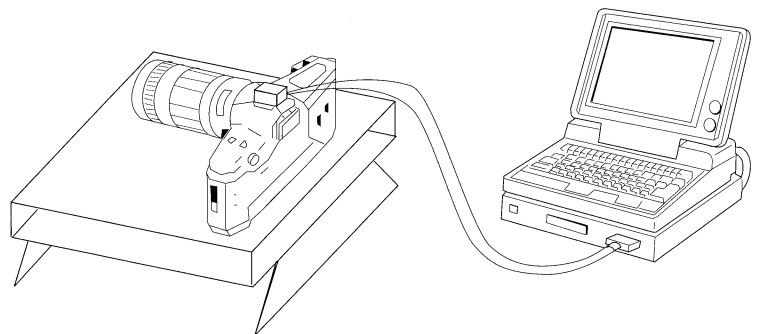

Fig. 3-35 Mechanical Lock Adjustment
3. Place the lens horizontally. (See Fig. 3-35.)